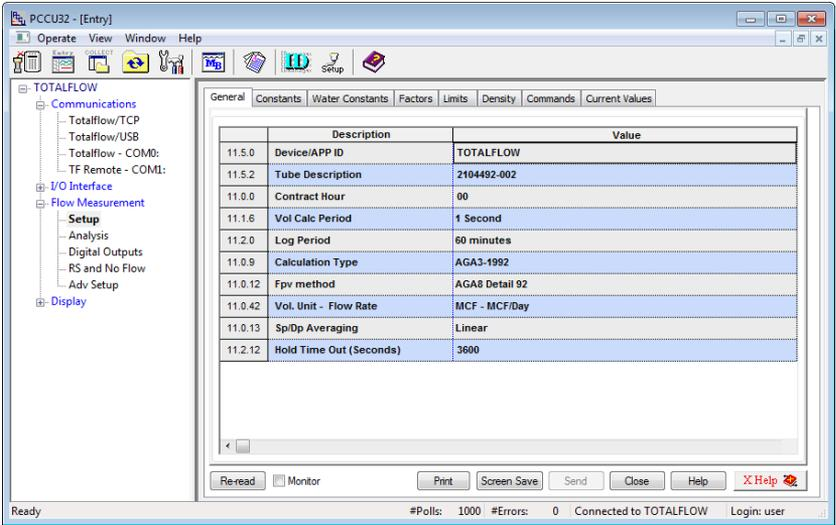

Figure 19: Measurement setup tabs
4. On the **General** tab (Figure 19) verify, and change if necessary, the following settings and any other settings that may need to be changed: